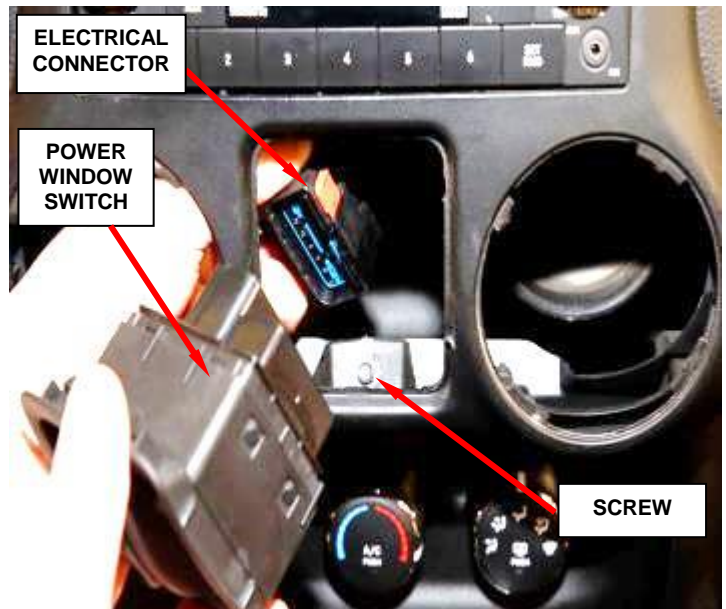

Figure 92 – Power Window Switch
14. If equipped with power windows, using a Trim Stick C-4755 or a suitable flat bladed tool, gently pry the switch assembly away from the instrument cluster bezel (Figure 92).
16. Disconnect the switch assembly electrical connector and remove the switch (Figure 92).
17. Remove the screw from the power window switch opening (Figure 92).